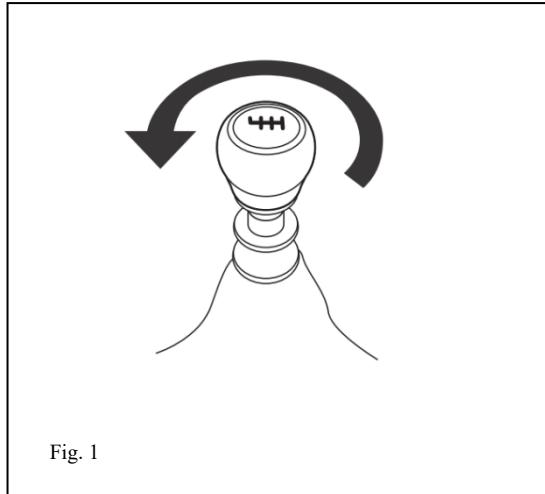

Fig. 1
- STOP (a) Make sure vehicle is on a flat surface and not on an incline/decline. Position the gear lever in Neutral. (MT)
- (a) Loosen, then remove and set aside for later storage. (Fig. 1)